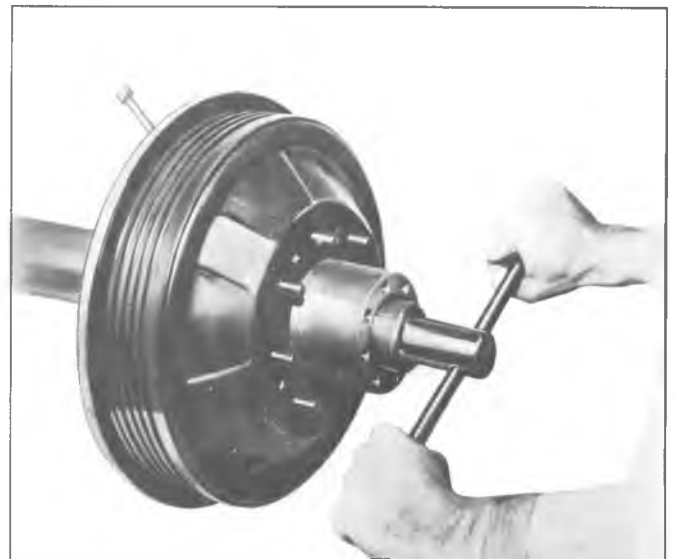

Fig. 35—Bearing Adjustment Nut Removal (Typical)
2. Disengage tang of nut lock from slot or flat of locknut, then remove locknut from housing tube, using appropriate tool (fig. 35).